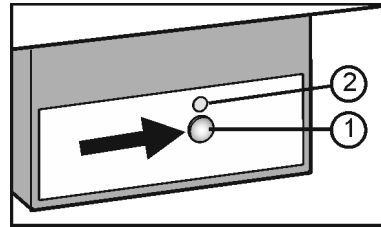

Fig. 9
- ▶ Press On/Off button Fig. 9 (1) so that the LED Fig. 9 (2) lights up.